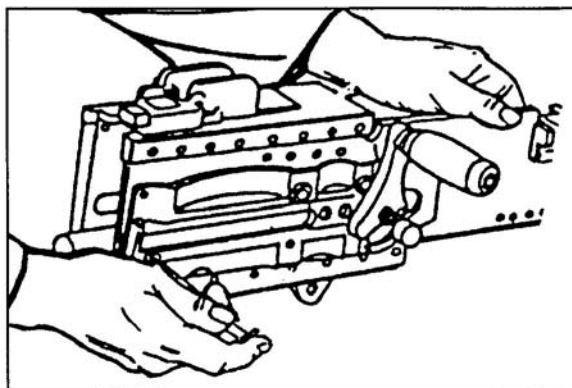

Figure 16. Removal of the barrel buffer and barrel extension assemblies.
- e. Remove the barrel buffer and barrel extension (Figure 16).